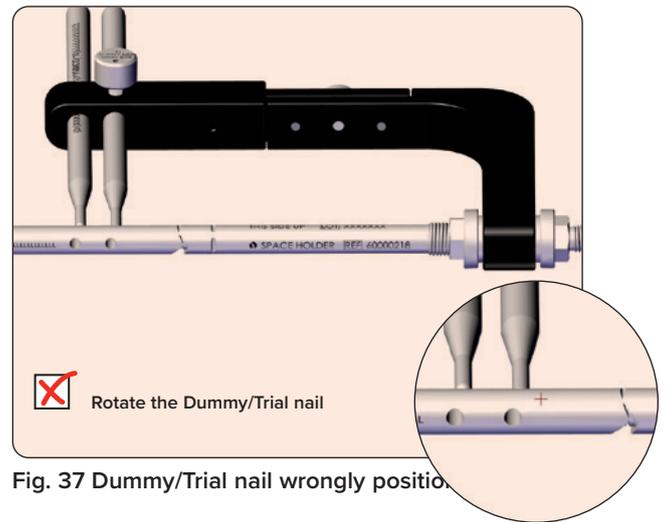

Fig. 37 Dummy/Trial nail wrongly positioned
3. The Fitbone is wrongly placed (**Fig. 37**).